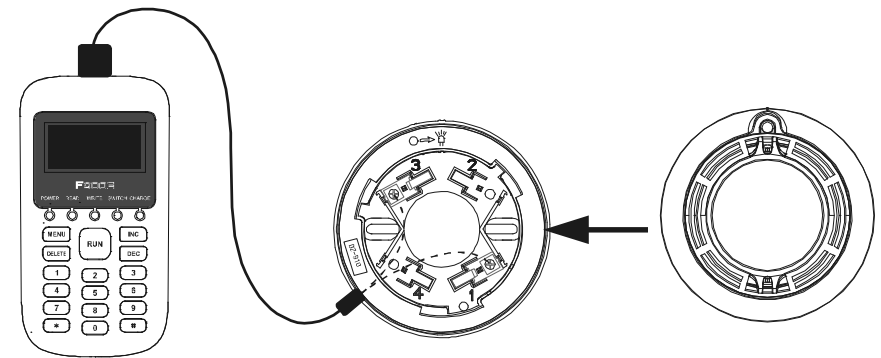

Fig. 4
3. Address encoding: As shown in Fig. 4, connect the detector through a detector base on the encoder with L1 and L2 connected in non-polarity mode; set the encoder to encoding function, compile a correct address code, and press the "Run" key to complete the address encoding setup. (Note: For the detailed operations, please refer to the encoder operation manual.)